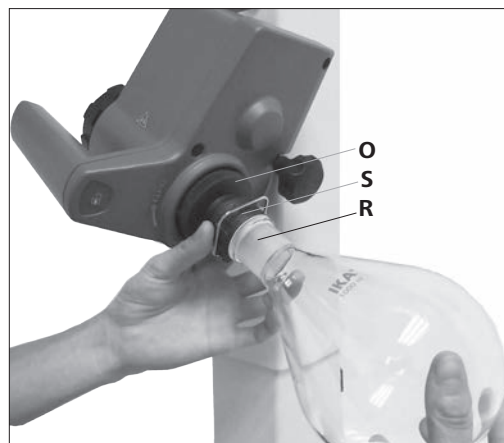

Fig.15a
- Place the evaporation flask on the Vapour tube (R). (Fig. 15a)